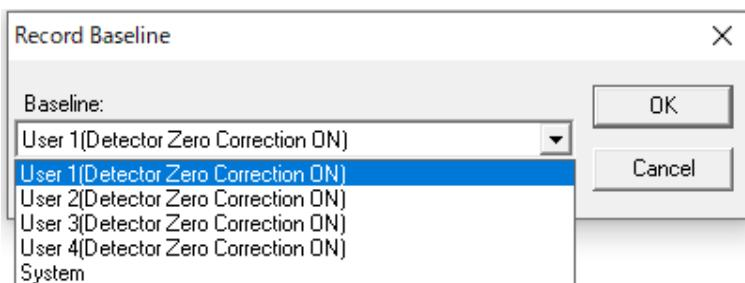

Fig. 6-50
"Spectrophotometer (S)" menu, or click the  (Baseline) button. The screen in Figure 6-50 is displayed.